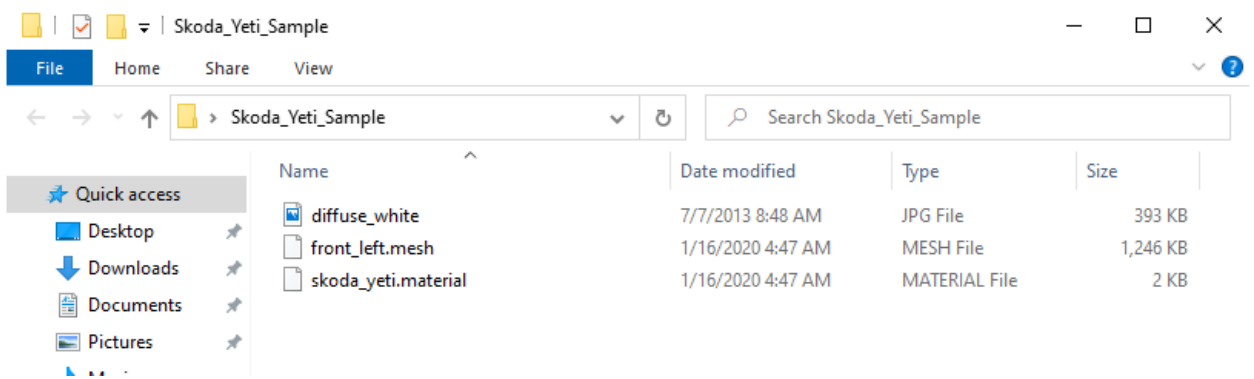

Figure 1.20. Creating the folder for a 3D object
- Copy exported ***.mesh**, ***.material** and texture files, if any, to this newly created folder **SampleUserBase\Skoda_Yeti_Sample**, see Figure 1.20.